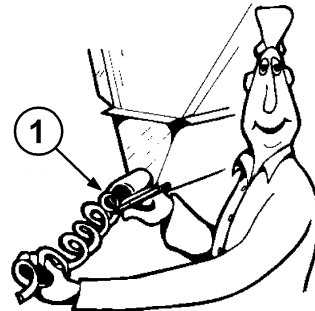

Figure 61. Measure the Auger from the *relaxed* position.
6. Pull the auger at the boot end until it begins stretching. Then let it relax. In the *relaxed* position, mark the auger at the end of the boot. See Figure 61.